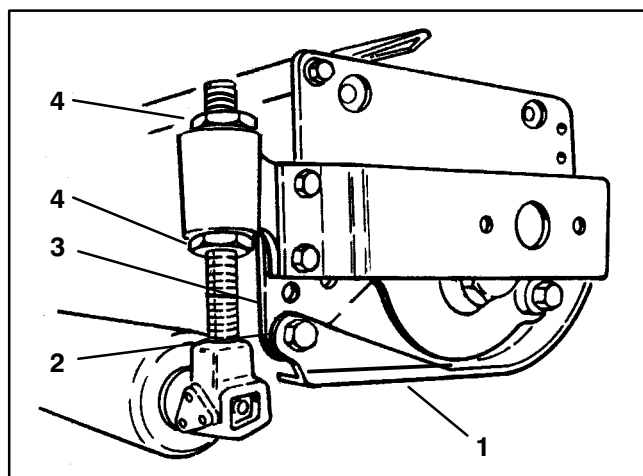

Figure 2
3. Position spacer between skid and sideplate, aligning mounting holes as shown in Fig. 2.
6. Loosen the cone nut on each roller adjuster and rotate top cone nut until desired thatching depth is attained (Fig. 2).